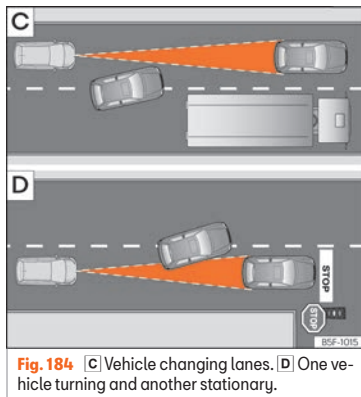

Fig. 184 [C] Vehicle changing lanes. [D] One vehicle turning and another stationary.
- Vehicles that move into your lane, a short distance from your vehicle » **Fig. 184 [C]**.
The ACC may not react to stationary vehicles. If, for example, a vehicle detected by the ACC turns or moves over and there is a stationary vehicle in front of it, the ACC will not react to the second vehicle »» Fig. 184 [D].